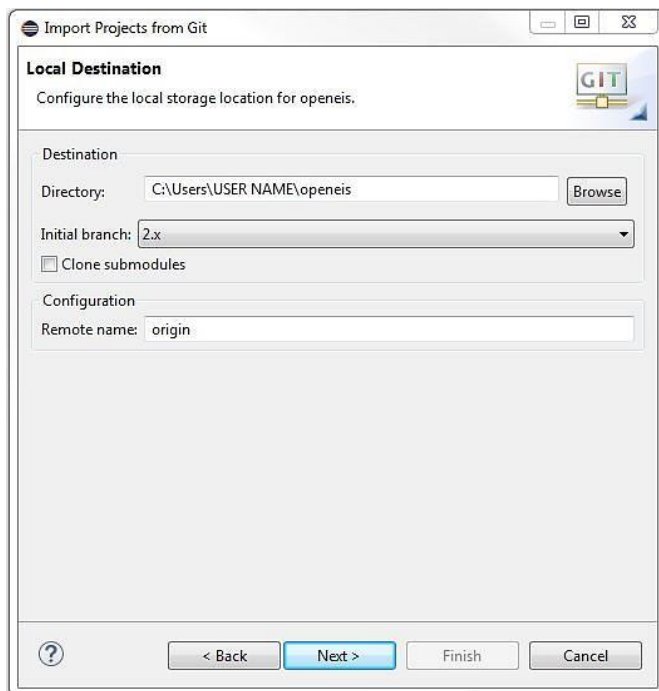

Figure 23: Checking Out OpenEIS with Eclipse from GitHub (continued)
6. Select a location to save the local repository (Figure 23)